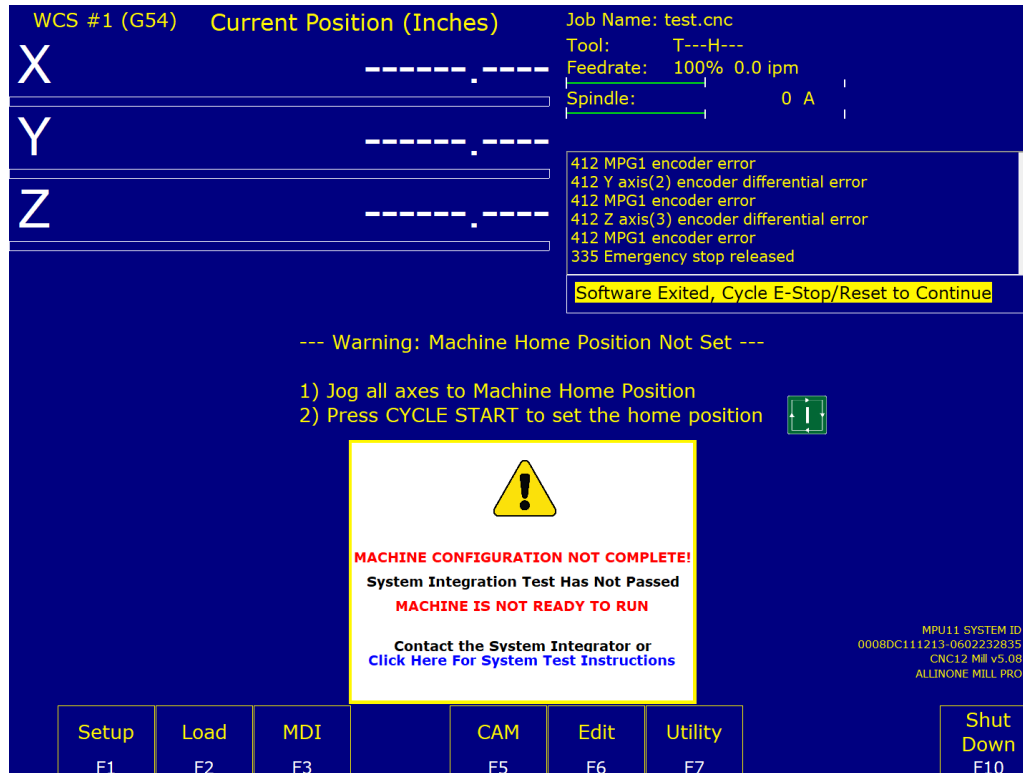

Figure 4.1.12
9. **Clear Software Ready Faults** Anytime the CNC12 software has been exited and restarted without the hardware also being powered off and restarted, the CNC12 software will report a **“Software Exited”** fault as demonstrated below in Figure 4.1.12. A “Software Exited” fault like spindle, lube, encoder and position fault is a **“stop fault”**. A “stop fault” removes power from all servo motors, prevents program or MDI operation, turns off all drive and spindle enables, and requires that the E-Stop input MUST be cycled in order to clear the fault. During the bench test we will trick the software into thinking we cycled the E-Stop (not connected yet), by toggling the input 11.